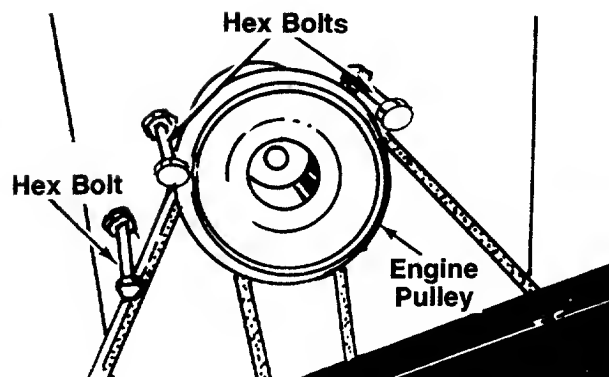

FIGURE 20.
Figures 20 through 23 are shown with the unit tipped up for clarity. It is not necessary to tip the unit to remove the belts.
3. Remove the three hex bolts (belt keepers) from the engine pulley belt guard. See figure 20.
Make certain hex bolts are reassembled as shown in figure 20.